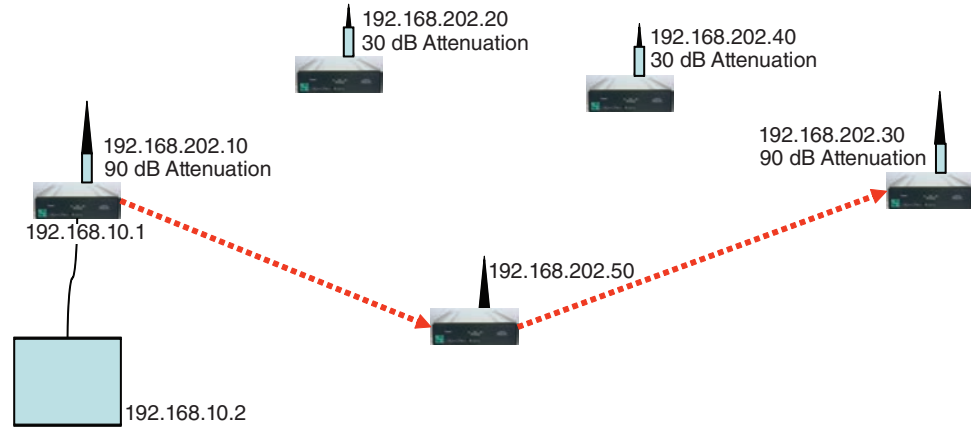

Figure 47. Testing five-node route optimization.
**STEP 1.** Reconfigure all the radios, as shown in Figure 47.